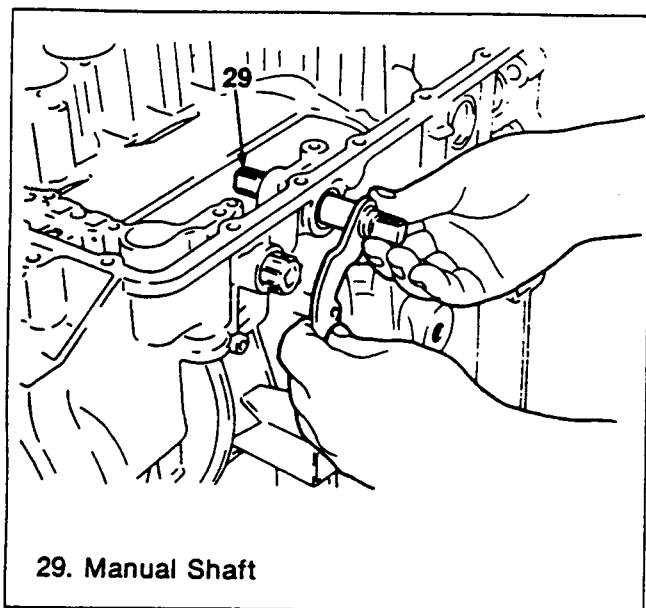

Figure 235. Manual Shaft Installation (1)
Manual Shaft (Figures 235 and 236)
2. Insert the manual shaft slowly so the oil seal is not damaged (figure 235).